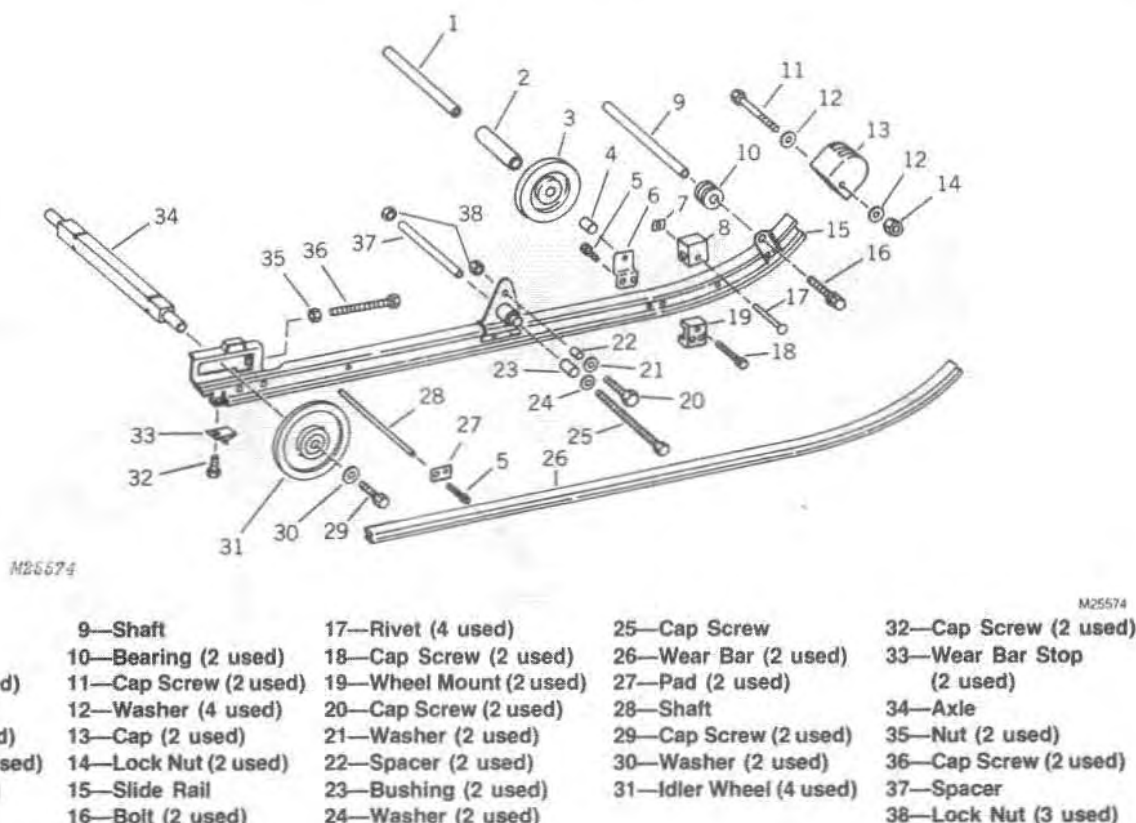

Fig. 3-Exploded View of Slide Suspension
2. Remove cap (13, Fig. 3) from front of suspension.